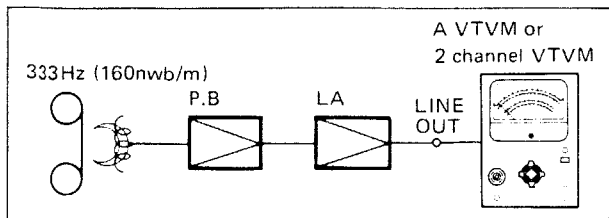

Fig. 7
#### (4) Playback level adjustment (Refer to Fig. 7)